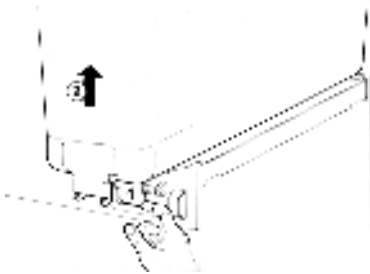

figure 1
- 2** Remove the empty bowl by lifting pulling lever (1) and its **front side (faucet side)** up and off bowl gasket (see figure 1).